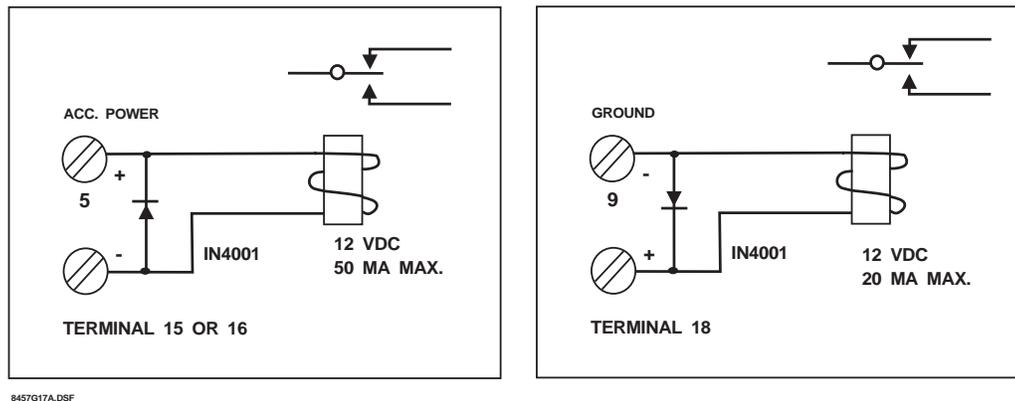

Figure 6: Connections to Terminals 15, 16, and 18
1. **Model 4720 panel Terminals 15, 16 and 18.** Terminals 15 and 16 are open collector outputs that sink current when activated (negative voltage, -12 VDC, 50 mA maximum). Terminal 18 functions as a current source when activated (positive voltage; +12 VDC, 20 mA maximum). Figure 6 shows how each of these terminals would be connected to an output device.